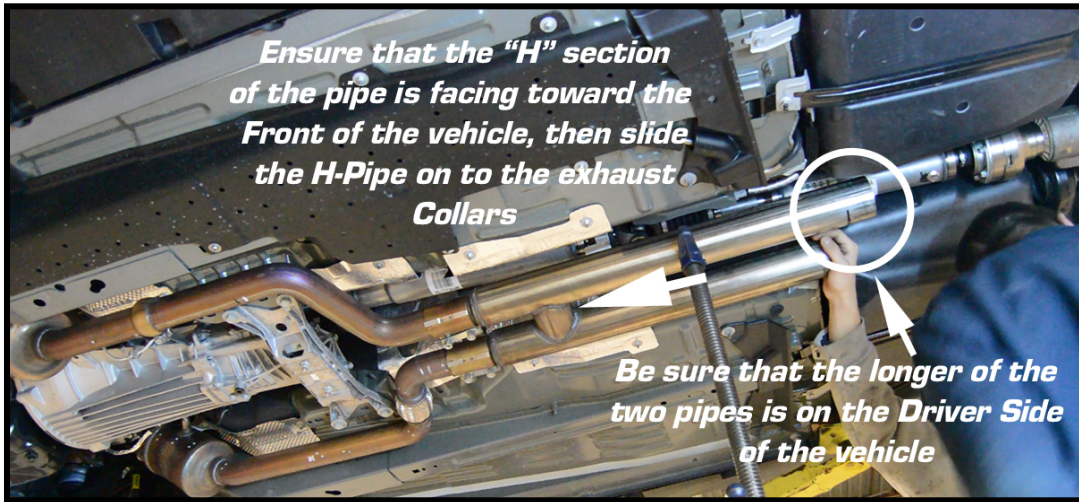

FIGURE 4
**STEP 5:** Slide the MRT H-pipe into place, ensure that the "H" section of the pipe is facing forward. You'll notice that one side of the H-pipe is slightly longer than the other, the pipes need to be orientated so the longer of the two is the on the driver side. (fig 4)
\* The MRT H-pipe is pictured in Figure 4, the kits which include the MRT Drone Management System will install the same way.